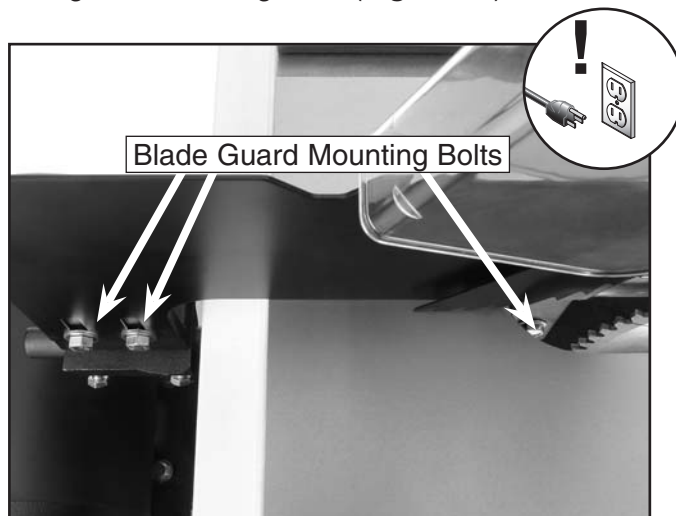

Figure 26. Blade guard mounting bolts.
4. Slide the blade guard fingers onto the blade guard mounting bolts (**Figure 26**).